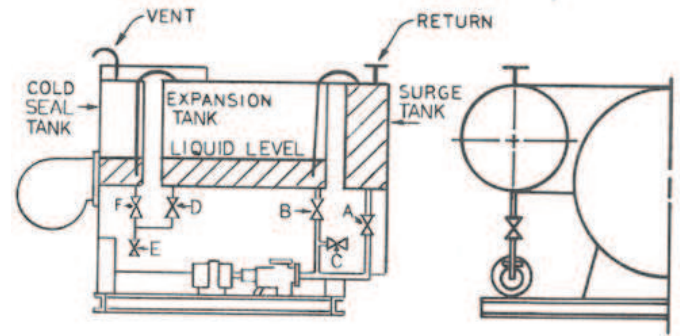

FIGURE 13- STANDARD HOPKINS EXPANSION TANK UNIT
Hopkins expansion tanks are mounted to the heater as one unit (see Figure 13). This unique arrangement allows for simplicity of the system, low maintenance, and unattended operation. The Expansion Tank is required for all closed-loop liquid circuits. When heated, thermal fluid expands approximately 4% by volume for every 100° F temperature increase.
- Figure 13 shows the cold seal tank and the surge tank connected to the expansion tank. The cold seal tank is separate from the expansion tank and the surge tank occupies 8-10 inches inside the expansion tank.
- $\frac{3}{4}$ " ball and gate valves are used in Volcanic's applications. From Figure 13, valves "A", "B", "C", and "D" are gate valves. Gate valves are needed to withstand the temperatures of the thermal fluid. Ball valves